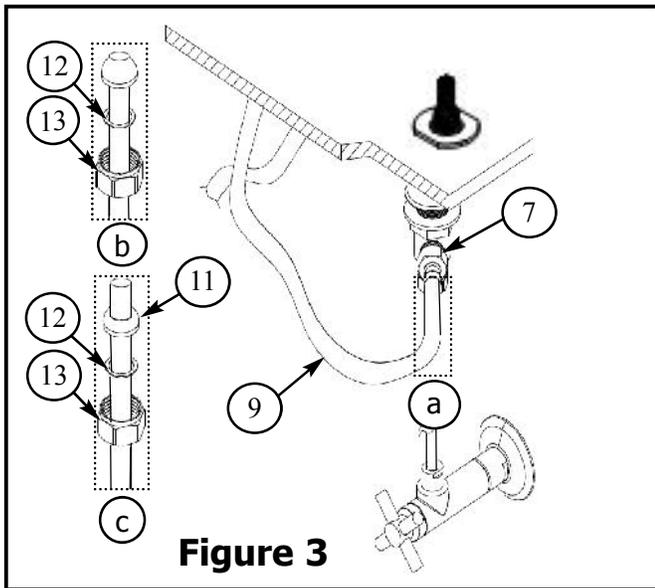
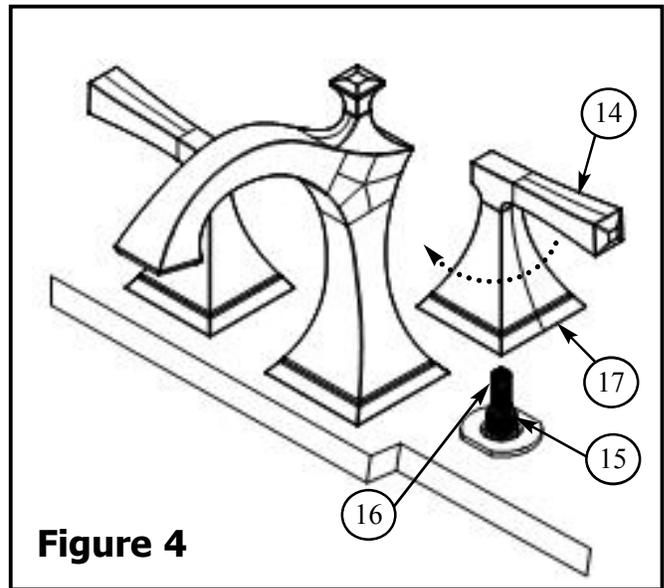

Figure 3
Figure 4
4. Connect hot/cold water supply to appropriate $1/2''$ NPSM valve BODY (7), utilizing one of the three following types of risers. Supply risers not included. See Figure 3.
- a. $1/2''$ IPS flexible riser: discard rubber nosecone WASHER (11), friction WASHER (12) and coupling NUT (13).
- b. $3/8''$ or $1/2''$ OD bullnose riser: utilize friction WASHER (12) and coupling NUT (13).
- c. $1/2''$ copper riser: utilize rubber nosecone WASHER (11), friction WASHER (12) and coupling NUT (13).
5. Secure HANDLE (14) into place by first engaging the STEM (16) and then threading ESCUTCHEON (17) onto CARTRIDGE (15). Any adjustments for rotational alignment must be made to the valve BODY (4), not to the CARTRIDGE (15). See Figure 4.